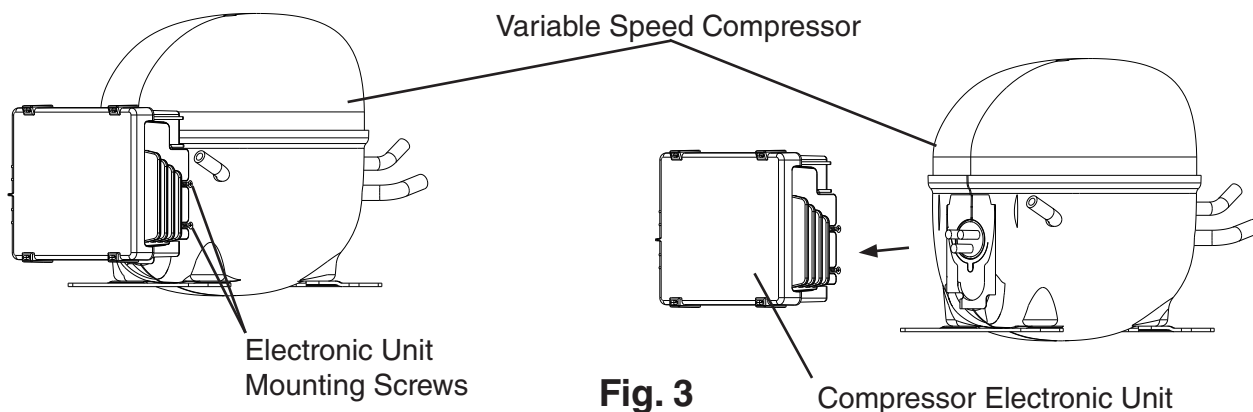

Fig. 3
- 4) Loosen the 2 screws securing the compressor electronic unit to the compressor. See Fig. 3. Remove the electronic unit from the compressor.
- 3) Loosen the 2 screws securing the compressor electronic unit to the compressor. See Fig. 3. Remove the electronic unit from the compressor.